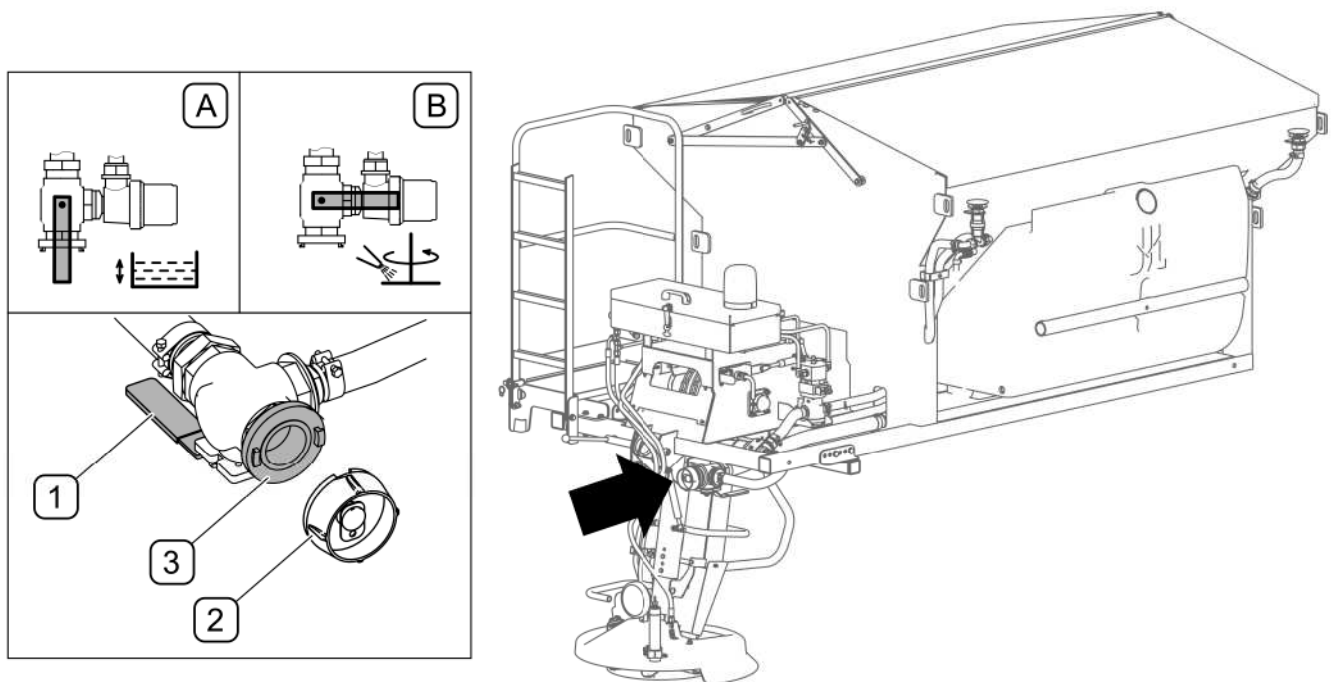

FIG. 4.34 Emptying brine tanks
Before unscrewing plug (2), make sure that valve lever (1) is in position (B) (FIG. 4.34)